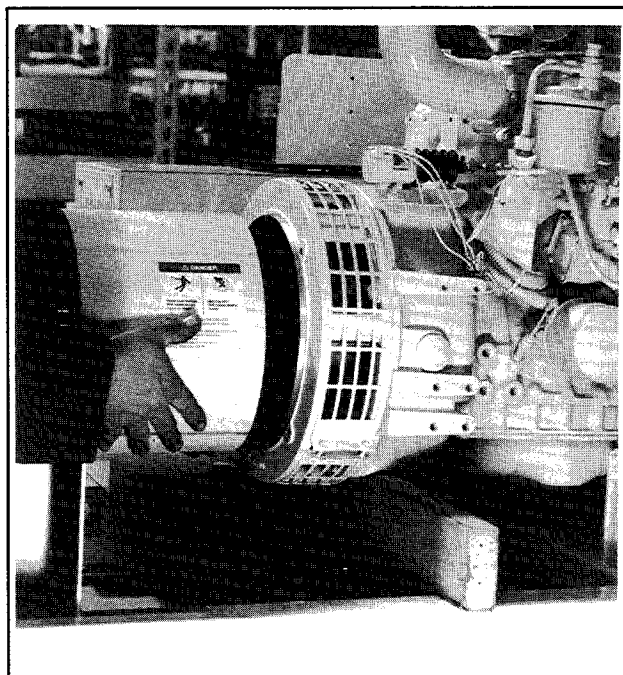

Figure 8-13. Removing Stator
16. Gently slide stator over rotor being careful to avoid damaging rotor and/or stator. See Figure 8-13.